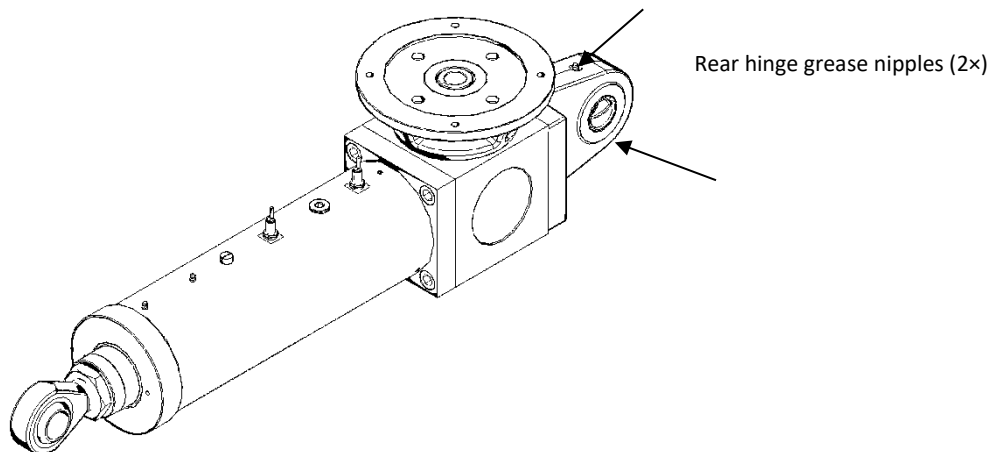

Figure 9.5 – Rear hinge grease nipples
- Relube the rear hinge using proper grease nipples (n°2 grease nipples), as shown on Fig. 9.5.